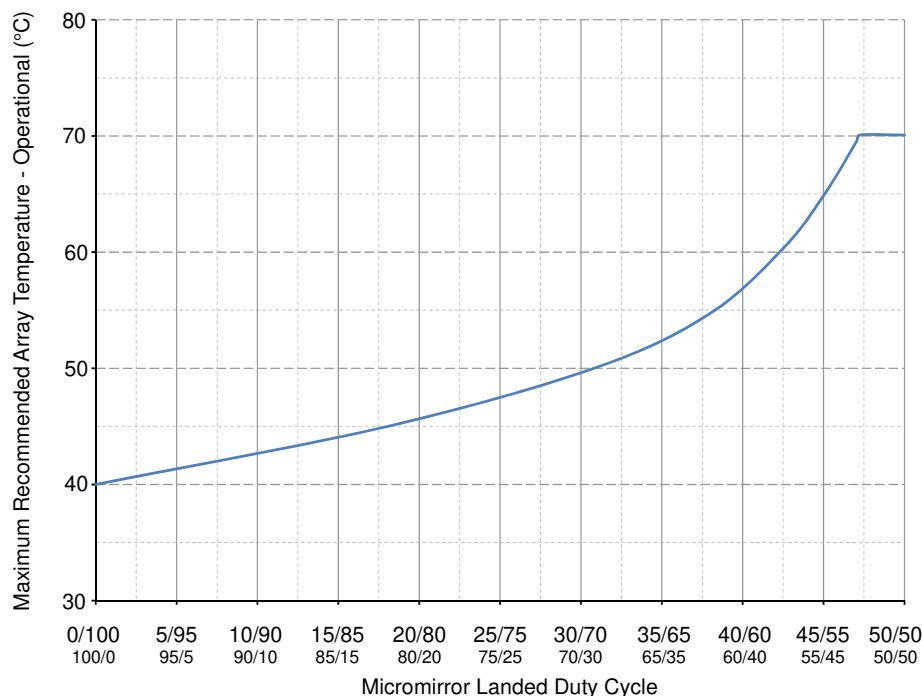

Figure 6-1. Maximum Recommended Array Temperature—Derating Curve
- (11) Per Figure 6-1, the maximum operational array temperature should be derated based on the micromirror landed duty cycle that the DMD experiences in the end application. Refer to Micromirror Landed-On/Landed-Off Duty Cycle for a definition of micromirror landed duty cycle.
- (12) Long-term is defined as the usable life of the device.
- (13) The maximum optical power that can be incident on the DMD is limited by the maximum optical power density and the micromirror array temperature
- (14) Short-term is the total cumulative time over the useful life of the device.